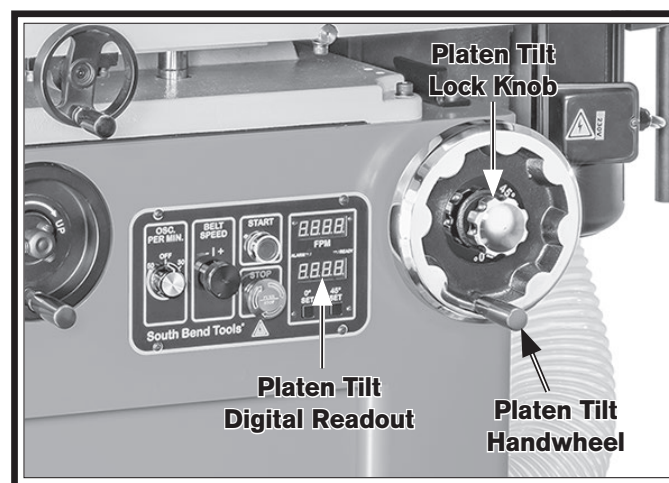

Figure 31. Platen tilt components.
2. Loosen platen tilt lock knob (see **Figure 31**).
3. Use platen tilt handwheel to tilt platen until platen tilt digital readout displays desired angle (see **Figure 31**).